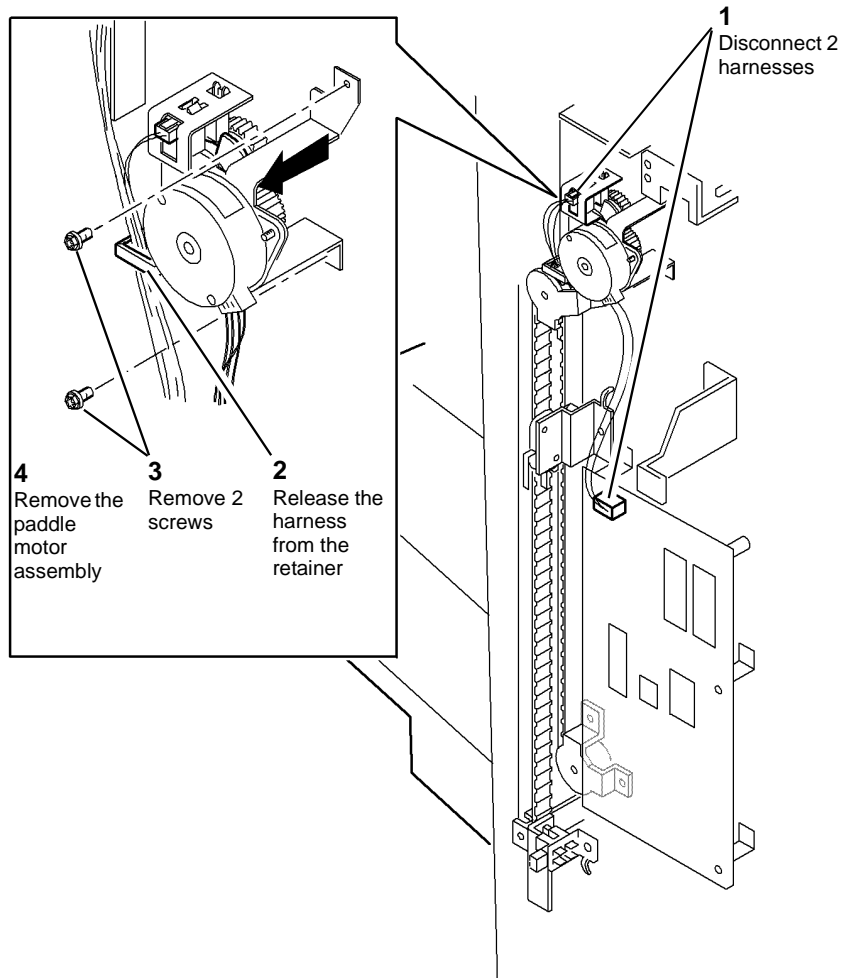

Figure 1 Paddle motor assembly
4. Remove the paddle motor assembly, **Figure 1**.